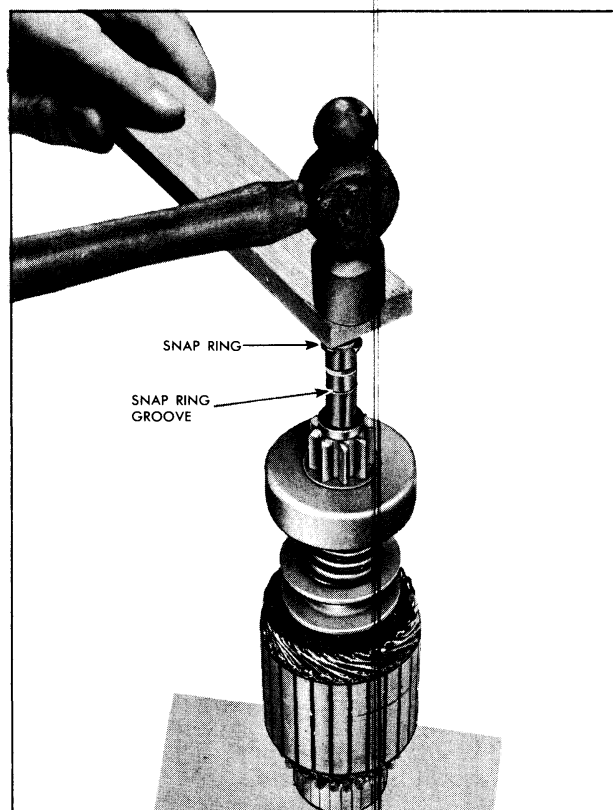

Fig. 11-11 Forcing Snap Ring onto Armature Shaft
- d. Stand armature on end on wood surface with commutator down. Position snap ring on upper end of shaft and hold in place with a block of wood. Hit wood block a blow with hammer forcing snap ring over end of shaft. Slide snap ring past the grease groove to the snap ring groove (Fig. 11-11).